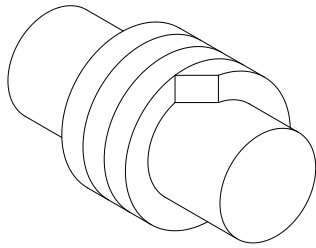
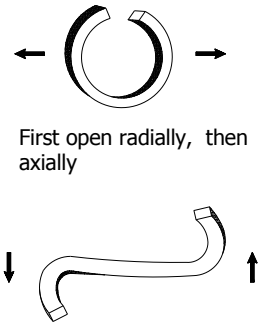

Figure 7.1
Figure 7.2
Before introducing the new gland packing, check the condition of the surface of the driving shaft (05) and the packing box (36). The shaft should have a polished surface finishing. Cut the rings to the required length with a 45° angle, as shown in Figure 7.1. Check that the cuts match on the shaft. Gently open the rings (Figure 7.2) to allow the passage of the shaft, and place each of the term in turn. First insert the junction and then push the rings to the end.